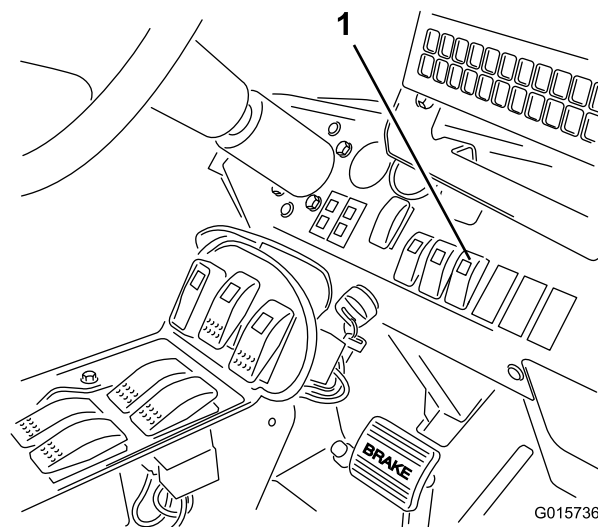

Figure 24
4. Press the sonic boom switch on the dashboard to the Auto position (Figure 24).